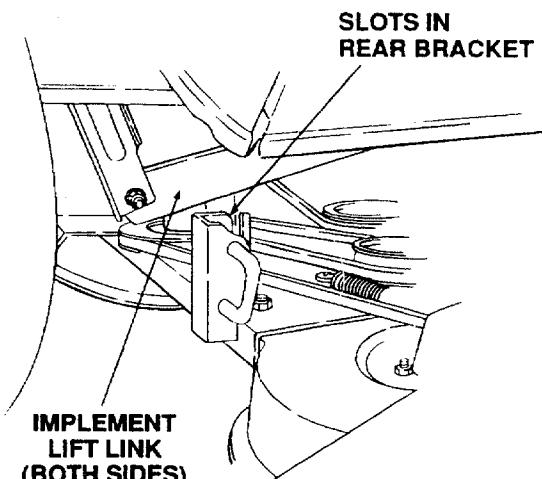

Figure 46
- Make sure both rear bracket slots of the deck align with both implement lift links of the tractor. (Refer to Figure 46.)